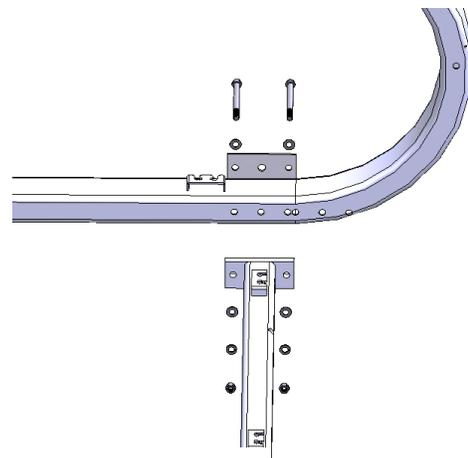

Figure 5
5. Attach the ground bar to the end frames with (2) 3/8"-16 x 4-1/2" bolts, (4) 3/8" flat washers, (1) 4952 (Frame Plate), (2) 3/8" lock washers, and (2) 3/8"-16 hex nuts. Verify the net clips are facing toward the outside of the goal. If football and soccer share an end line, position the ground bar on the inside holes. If soccer and football each have their own end line, position the ground bar on the outside holes. Tighten all hardware (Fig. 5).